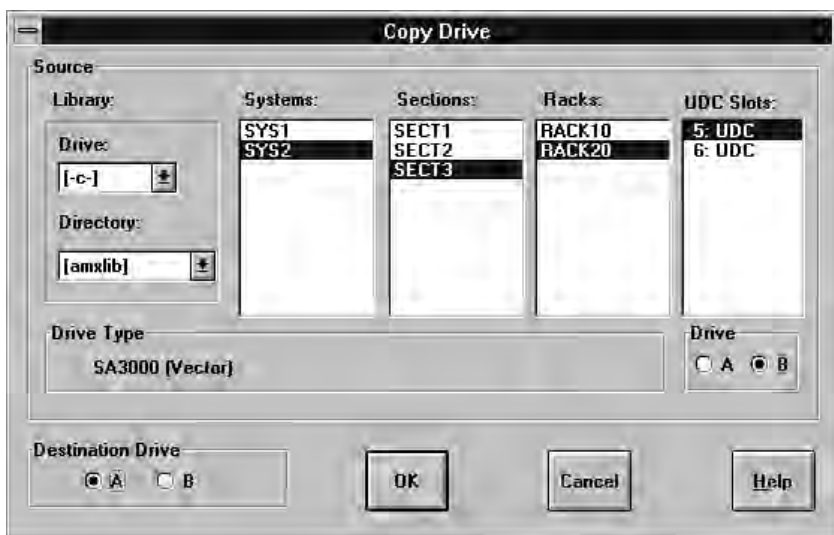

Figure 6.9 - Copy Drive Dialog Box
- Step 2. Select **Copy UDC Drive** from the **Commands** menu to display the **Copy Drive** dialog box (see figure 6.9).